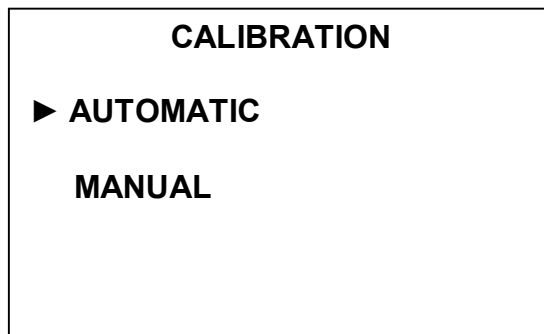

Fig. 2.1
- 1 Press the key . The display shown in Fig. 2.1 shall come up.